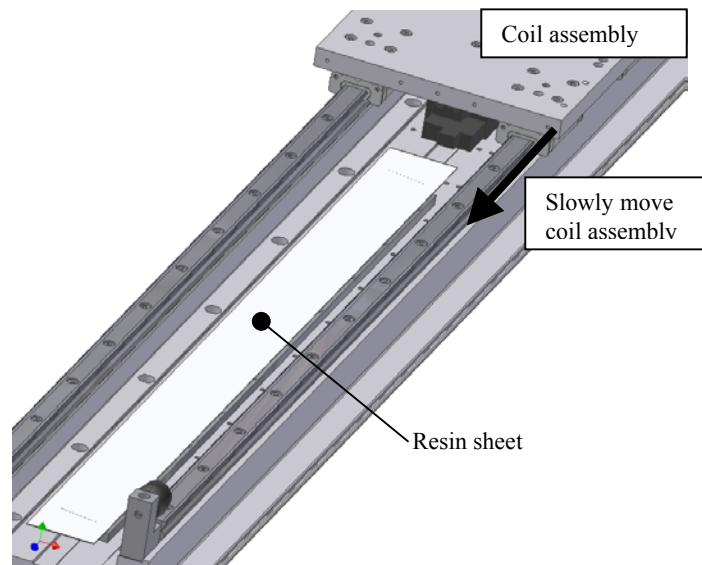

Figure 12
- (2) Insert a thin non-magnetic (preferably resin) sheet (thickness: approx. 0.5-mm thick) in the air gap between the coil assembly and magnet track, and then slowly move the coil assembly toward the magnet track. (Refer to Figure 12).